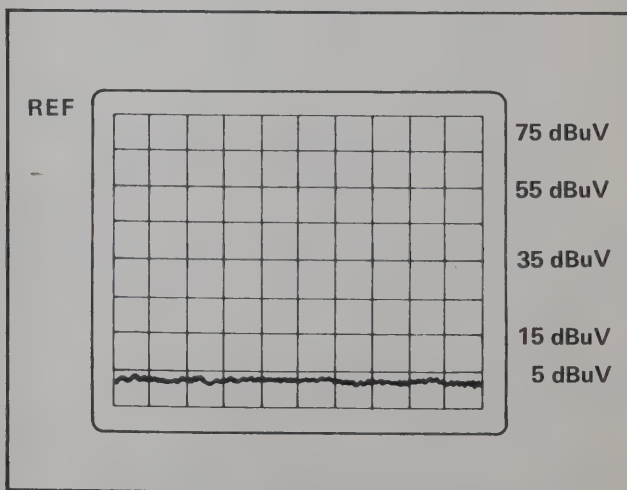

Figure 4.9 Average Noise Level Test Display
- e. Set the SCAN TIME to a slower rate and verify that the average noise level is below 5 dBuV (Figure 4.9).